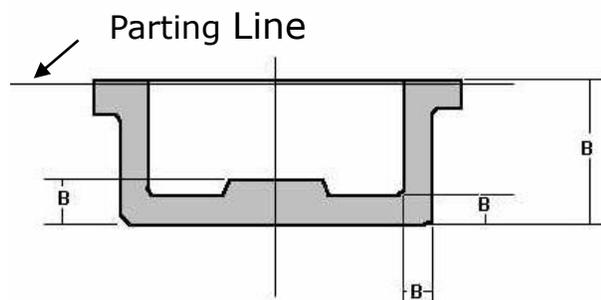

Figure 2
- Dimensions across parting line. See Figure 2. All dimensions marked B will vary based on the alignment of the two halves of a plastic or diecasting mold.